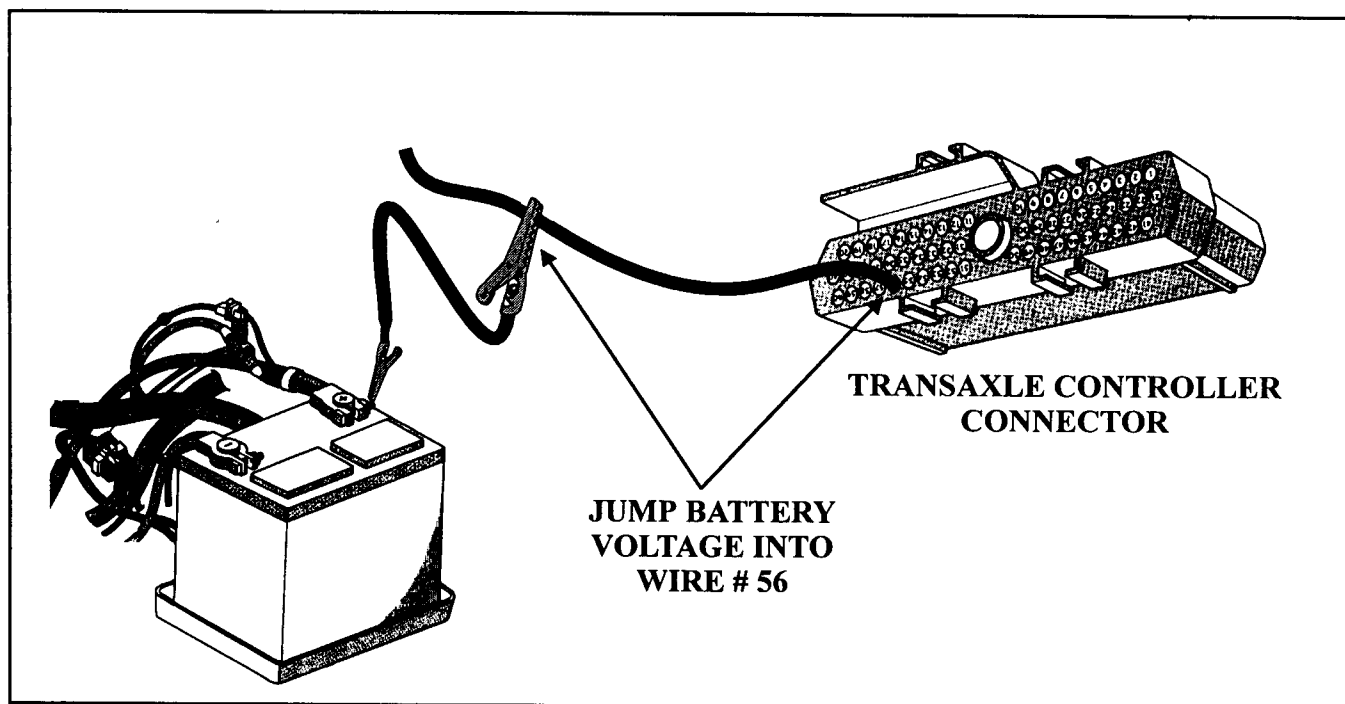

Figure 14
- CORRECTION:** First replace the EATX relay with a known good relay (Refer to pages 8-10 for relay location). If the problem remains, a quick method to verify a bad fuse or fusible wire is to locate wire 56 at the TCM. Carefully remove some of the insulation from the wire and connect battery voltage to the wire with a jumper wire (See Figure 14). Once connected, if all symptoms are removed, a defective fuse or fusible wire is the problem. To assist on locating the defective fusible link, all fusible links are color coded and can be found below and between the battery and driver side spring tower (See Figure 8). Refer to the chart in Figures 9 and 10 which cross references the fusible link color identification to the vehicle make and year.